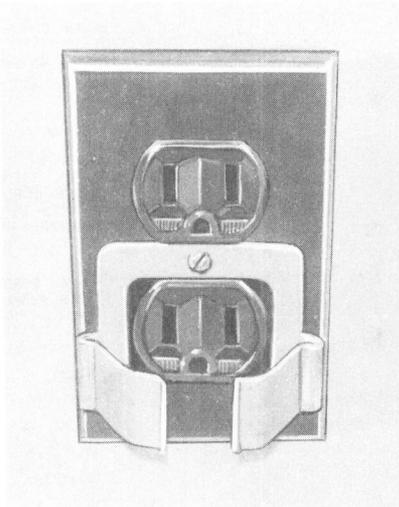

Fig. 8—841050818 Retaining Clamp Mounted on AC Outlet Box Using Outlet Cover Screw
**Danger:** For safety, securely attach retaining clamp to ac outlet using outlet cover screw **BEFORE** attempting to install 85B1 power unit. See Fig. 8. The power unit and any other cord plugged into the ac outlet should always be unplugged completely from outlet **BEFORE** attempting to attach or remove the clamp. This will prevent the possibility of a loosened retainer clamp or metallic outlet cover making contact with the ac prongs of the 85B1 power unit when partially withdrawn from outlet. Do not use retaining clamp on outlets where the cover mounting screw holds the duplex outlet in the box.